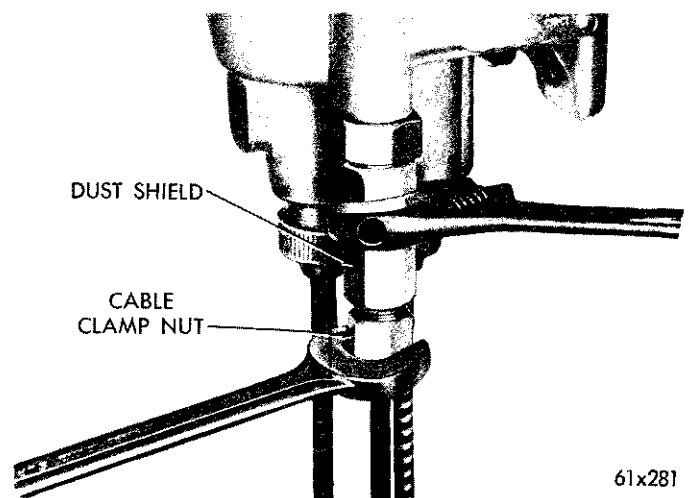

Fig. 8—Control Cable Adjustment
(1) Rotate the selector knob counterclockwise as far as it will go without forcing.
(2) Hold the dust shield so that it will not rotate while unscrewing the clamp nut. Let the nut slide down the control cable. (This nut retains the control cable in the bottom of the dust shield.) (Fig. 8.)